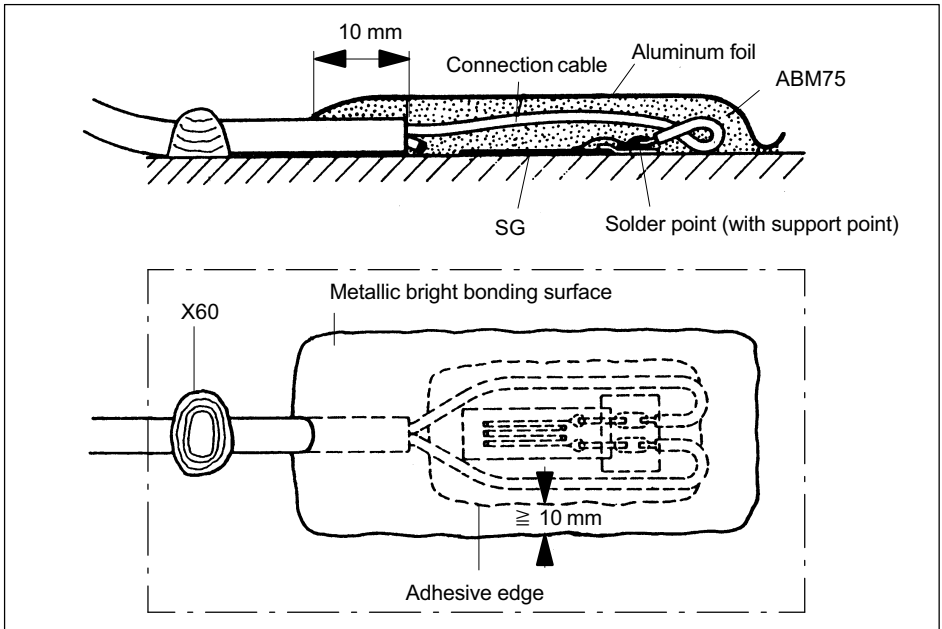

Fig. 4.1 SG measuring point covered with ABM75
- ▶ The connection cable and the cable sheath in the area of the measuring point must also be degreased. Prepare the cabling of the measuring point as shown in *Fig. 4.1 on Page 7*.
- ▶ Cut a piece of covering tape suitable for the size of the cleaned surface. It should be at least 10 mm wider than the adhesive surrounding the SG and project over the cable connection side by at least 15 mm (see Fig. 4.1).